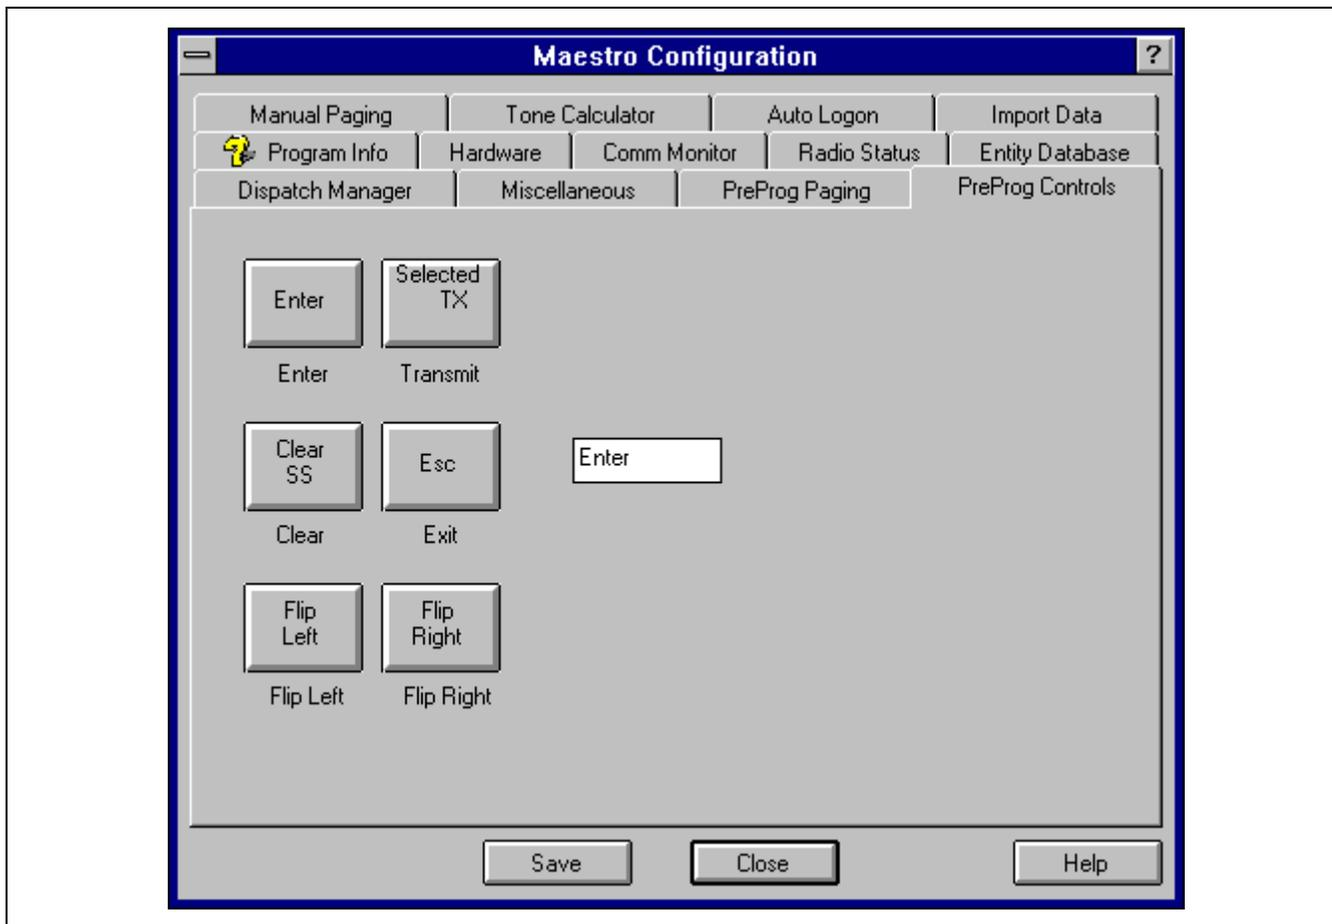

Figure 6-12 — Configuration Editor's Preprogrammed Paging Control Buttons Dialog Box
1. From the PreProg Control dialog box (see Figure 6-12), click the desired control button.